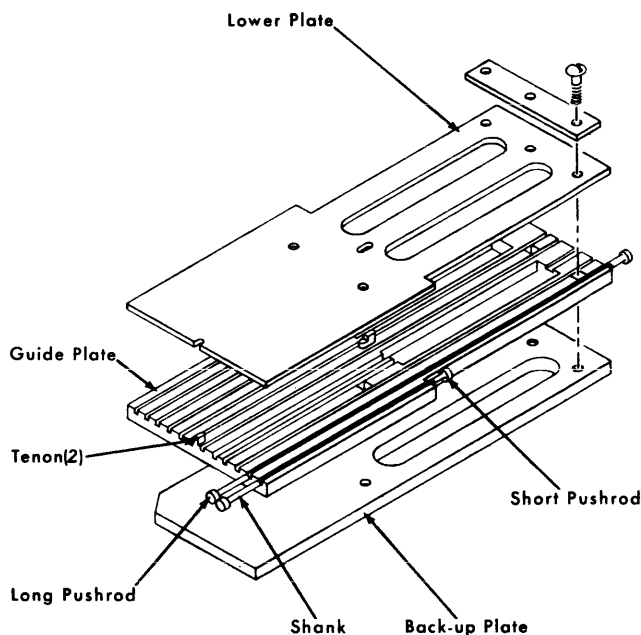

Figure 83. Pushrod Assembly (Inverted)
5. Remove the mounting screws from the top of the appropriate pushrod assembly (Figure 83) and slide the assembly out the rear in a straight line. Use care to avoid losing pushrods out of their slots, and avoid damaging the locating tenons on the bottom of the guides.
2. Place the pushrod in position and put the guides and backup plate together, making sure all holes line up. Be sure to install the backup plate with its cut corner oriented as shown in Figure 83. This places the close tolerance flat side against the pushrod guide plate.